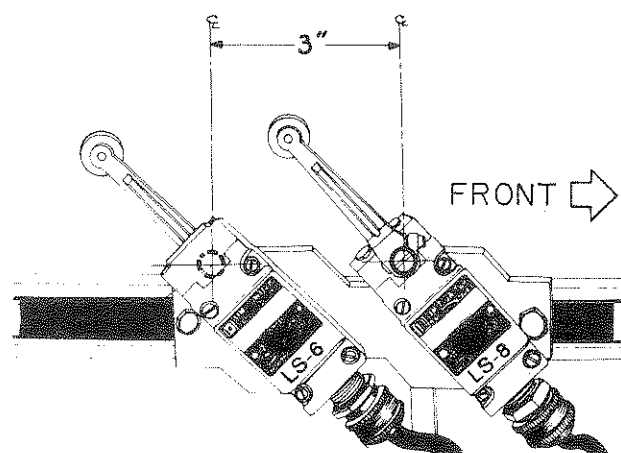

Fig. 45
2. Loosen the mounting bolt and slide LS-8 (Feed Fork Delay Plunger Switch) forward or rearward so that the center of the switch shaft is 3 inches forward of the center of the switch shaft on LS-6 (Plunger Return Stop Switch), see **Fig. 45**.